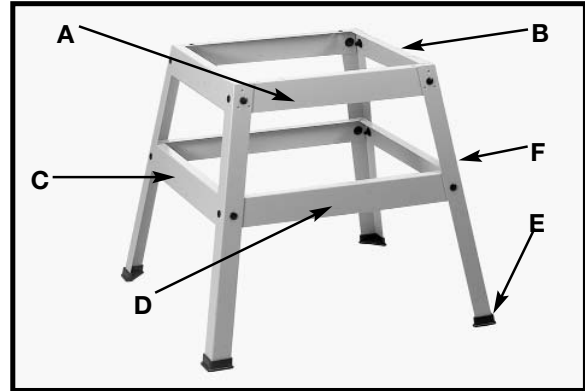

Fig. 4C
1. Assemble the stand as shown in Fig. 4C, using 16 M8x1.25x20mm carriage head bolts, 3/8" flat washers and M8x1.25 hex nuts. Align the holes in the stand legs (F) with the holes in the brackets. Insert the carriage head bolt through the hole in the leg and the hole in the bracket, place a flat washer on the carriage head bolt and thread a hex nut onto the carriage head bolt. Repeat this process for the 15 remaining holes in the legs and brackets.
2. Attach the rubber feet (E) Fig. 4C to the bottom of each leg (F).